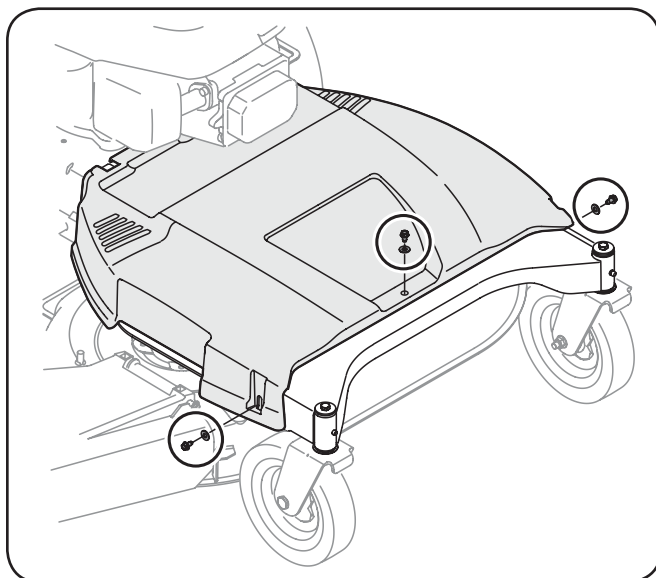

Figure 7-1
1. Remove the belt cover by removing the three screws and washers which secure it to the frame. See Fig. 7-1.
2. Remove the belt cover as instructed earlier in this section. See Fig. 7-1.